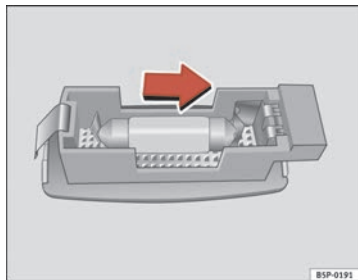

Fig. 180 Removing sun visor light
- Carefully remove the lamp, using the flat side of the screwdriver, as shown in the figure ⇒ fig. 180.
- Remove the bulb, moving it in the direction of the arrow and outwards ⇒ fig. 180.